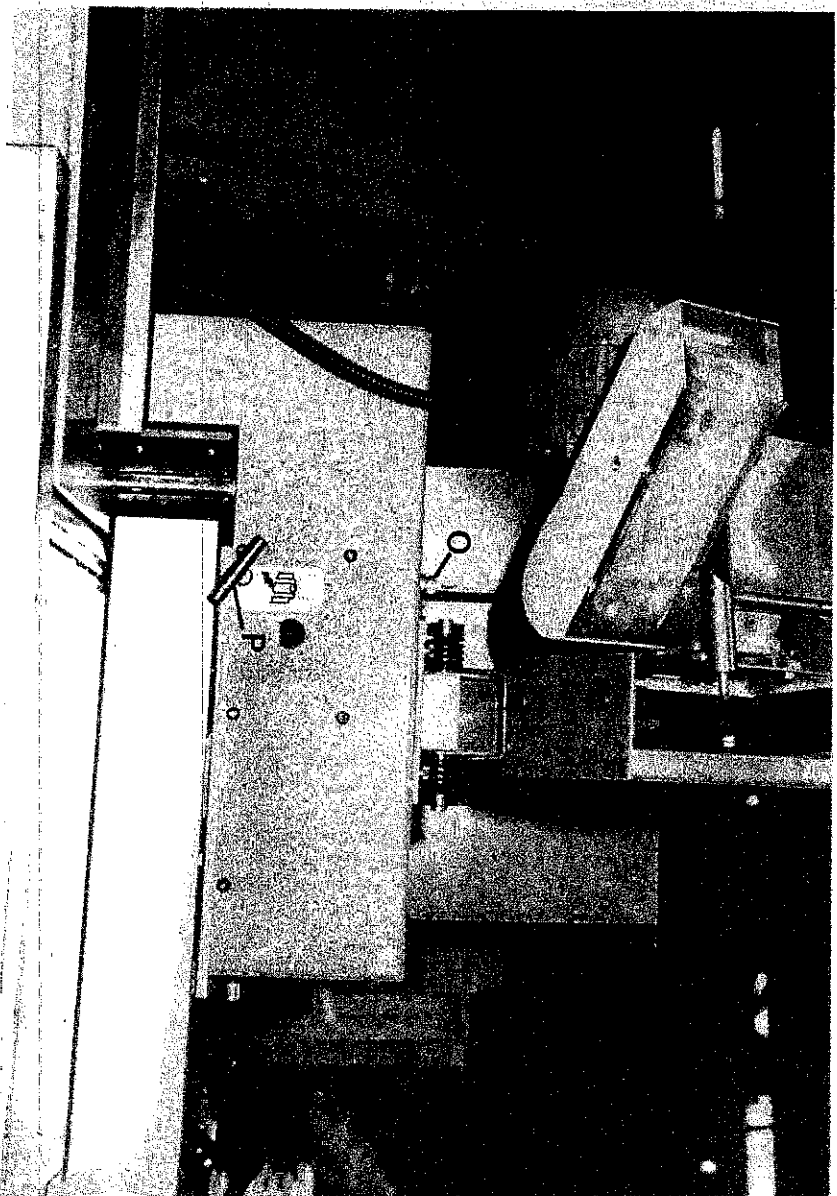
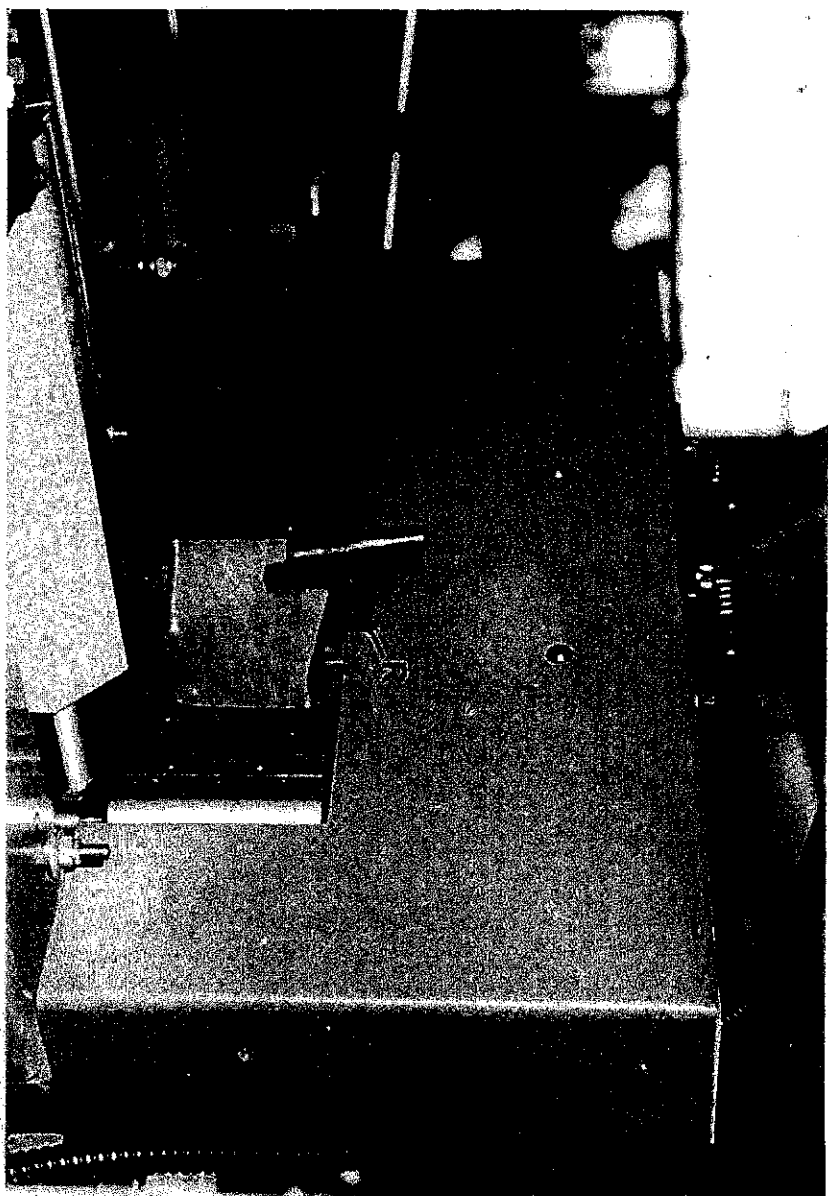

Fig 17
Fig 18
- 3) Loosen nut "O" FIG. 17.
- 4) To move cutterblock towards fence, loosen grubscREW "P" FIG. 17 with 'T' wrench provided and turn grubscREW "R" FIG. 18 clockwise until cutting circle of cutterblock is level with fence.
- 6) Relock grubscREW "P" FIG. 17.
- 7) Relock nut "O" FIG. 17.